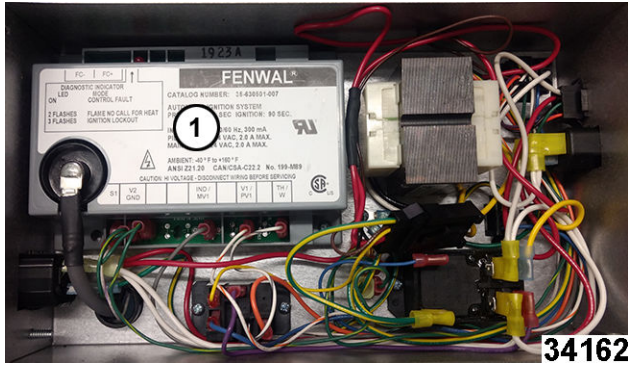

Fig. 77
3. Note and disconnect module (1, Fig. 77) wiring.